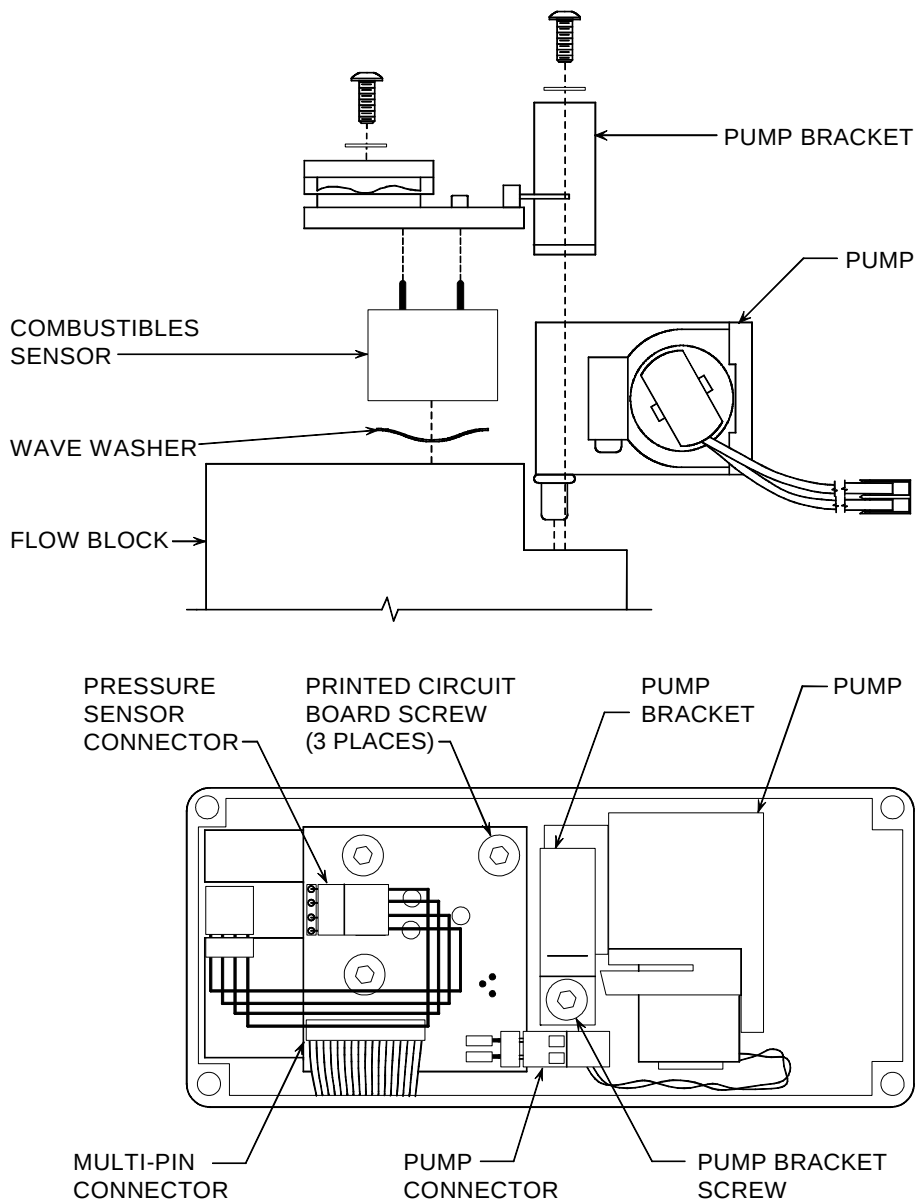

Figure 24. Pump or Sensor Replacement
To replace the pump (see Figure 24):
To replace the sensor (see Figure 24):
5. Reinstall printed circuit board into flow block; taking care to properly position the board as shown in Figure 24.